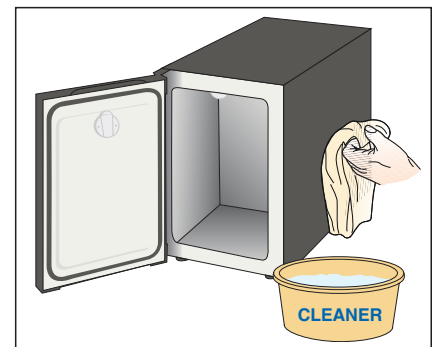

Fig. 3
- 7 During the automatic cleaning process, clean the milk cooling unit using a wet, soft cloth. Then, wipe it with a dry cloth. (Fig. 3)